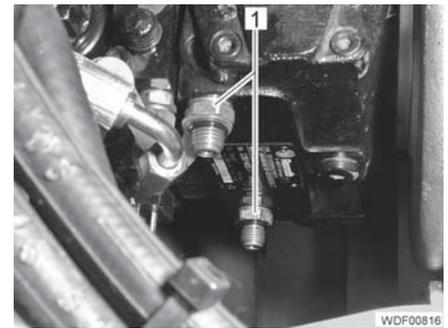

Fig. 17 Test adapter
- Screw in and tighten 2 test adapters (Fig. 17,1).